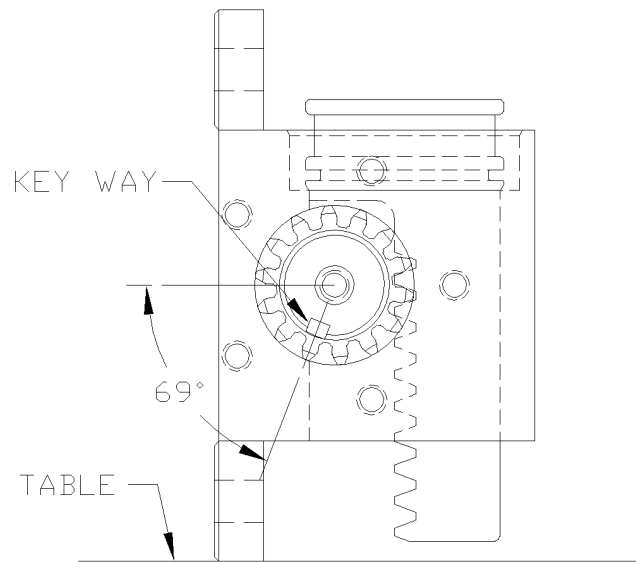

figure A-6
6. Check the position of the racks in the pinion by making sure both racks seat against the actuator body at the same time and also when the racks are seated against the body, the key ways on the pinion shaft should be facing down toward the table and mounting flanges on the actuator body as shown in figure A-6.